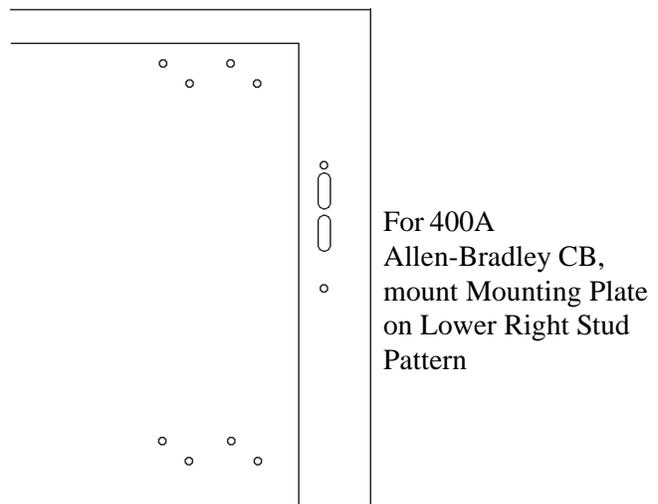

Figure 16
4. Assemble Circuit Breaker Mounting Plate with attached Breaker and Operator to cabinet on lower right set of provided mounting studs (see Figure 16) using provided 1/4" Lock Washers and 1/4-20 Hex Nuts.